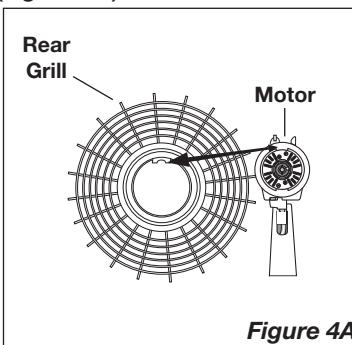

Figure 4A
2. Align tab on Plastic **Rear Grill** with groove on top of front **Motor cover**. (Figure 4A)